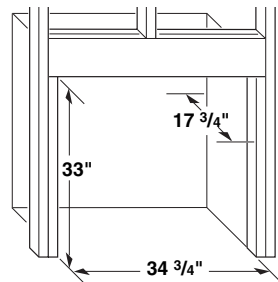
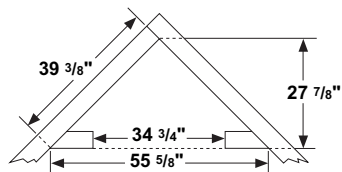

Figure 13 - Rough Opening for Installing in Wall
Figure 14 - Rough Opening for Installing in Corner
1. Frame in rough opening. Use dimensions shown in Figure 13 for the rough opening. If installing in a corner, use dimensions shown in Figure 14 for the rough opening. The height is 33", which is the same as the wall opening in Figure 13.